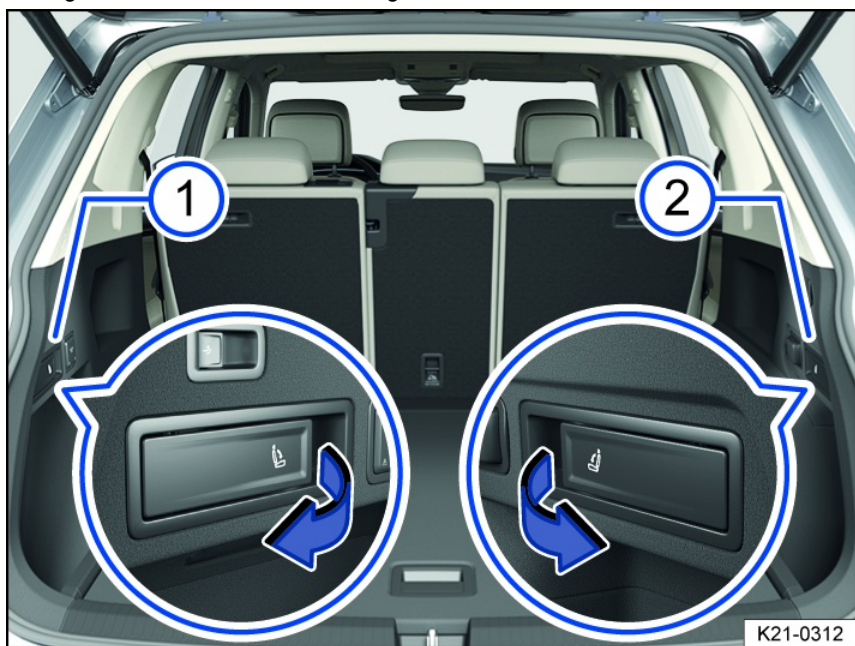

Fig. 85 In the luggage compartment: Remote unlocking lever for the left ① and right ② part of the rear seat backrest.
3. Pull the remote release lever fig. 85 for the backrest section to be folded forward in the direction of the arrow.